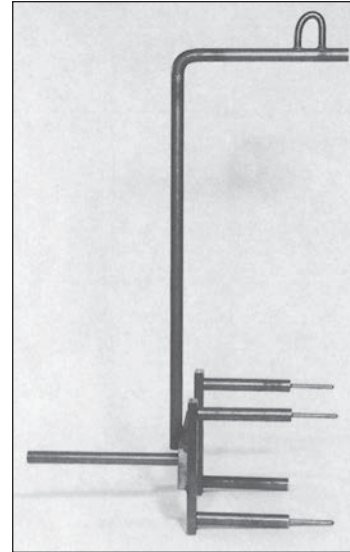

Figure 10-1
**Exciter Stator Lifting Fixture** (figure 10-1) – In cases where the exciter stator is to be serviced without removing the generator conduit box, this fixture can be used with overhead rigging to remove and re-install the exciter stator.